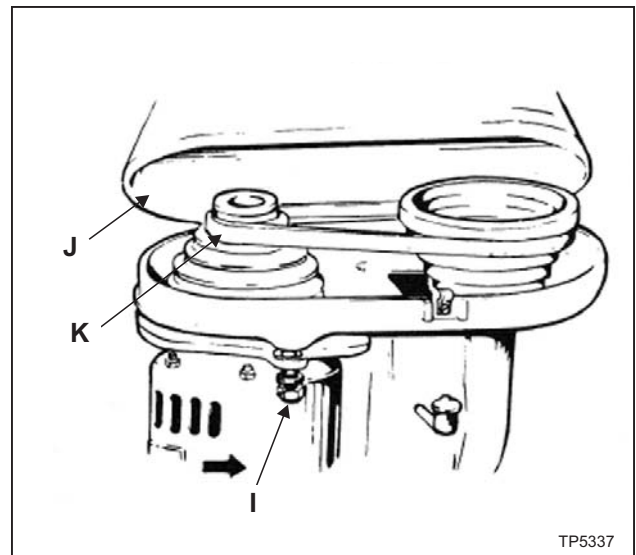

Figure 3.18 - E-Head Speed Adjustment
1. To change speed loosen the two hex nuts "I", Figure 3.18, and move motor forward.